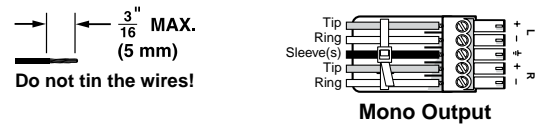

Figure 2-6 — Captive screw connector wiring for audio output
- ⑥ **Mono Audio (local audio) output** — Connect an audio device, such as an audio amplifier or powered speakers to this 3.5 mm, 5-pole captive screw connector. This connector outputs the selected unamplified, mono line level audio. See figure 2-6 to properly wire the output connector. Use the supplied tie-wrap to strap the audio cable to the extended tail of the connector.